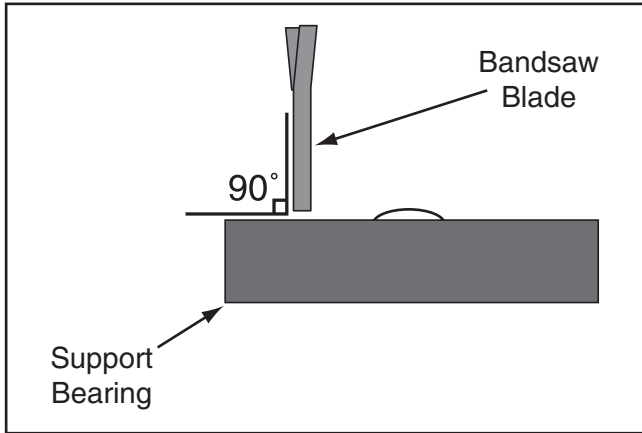

Figure 23. The face of the support bearing must be perpendicular (90°) to the blade.
4. Rotate blade guide assembly until the face of support bearing is perpendicular to blade, as shown in **Figure 23**.